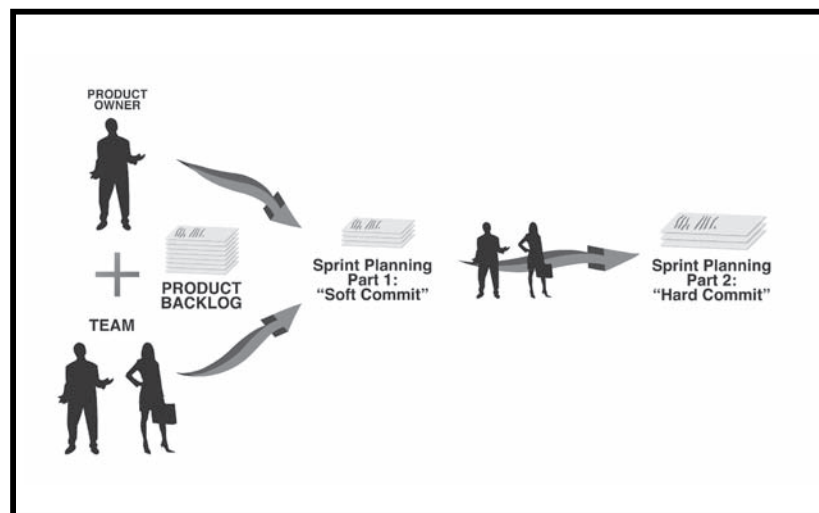

Figure 2.14 Steady State #1.
The first steady state encompasses the activities of the customer/proxy, or in Scrum vernacular the Product Owner (PO), who is receiving, analyzing, and prioritizing the features required for a successful solution. That work is kept in an artifact referred to in Scrum as the *product backlog*. The Product Backlog is equivalent to the product specification or requirements list in traditional project management. It is, however, significantly different because the PO is continuously *grooming* it based on information being received from internal and external sources. As priorities change, system features can be promoted or demoted. As the project moves forward, features that were on the future horizon enter the current horizon and are analyzed and estimated. So the Product Backlog is in a state of flux, but from the team's perspective it is in a steady state. That is because the team interacts with the Product Backlog only at the beginning of each iteration in order to negotiate with the PO and decide which features will be included in the next iteration. Once those features are agreed upon and fully committed to, they cannot be changed. This is shown in Figure 2.14.